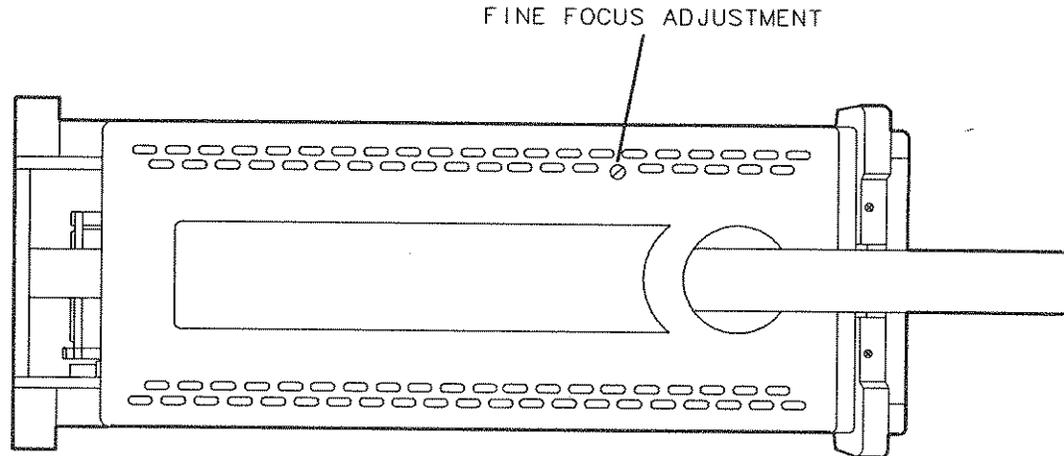

Figure 7-4. Adjusting the Fine Focus
2. Use an adjustment tool or small screwdriver to access the fine-focus adjustment. See Figure 7-4. Adjust for a focused display.